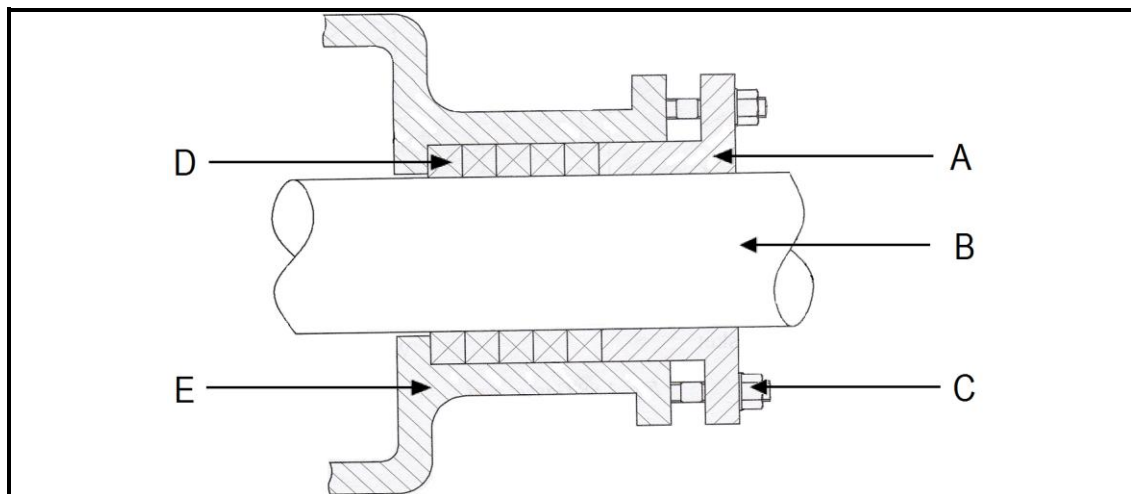

FIGURE 2
6.1 FIGURE 2 below shows a diagram of a stuffing box.